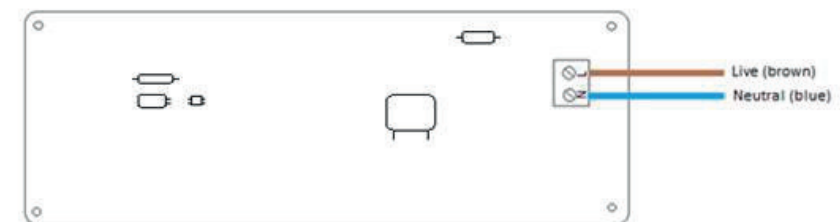

Fig 3
- Ensuring that correct polarity is observed, wire mains cable into the PCB terminal block, see Fig 3